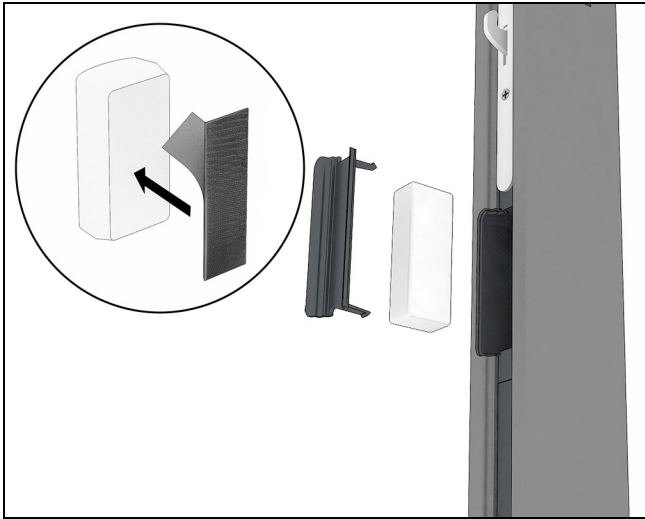

Figure 46
2. **MNMSD:** On the edge of the active panel, pry off the transmitter cover plate. Use the provided hook and loop strip affixed to the inside of the route to position your transmitter (remove backing and adhere to your transmitter). See Figure 46.